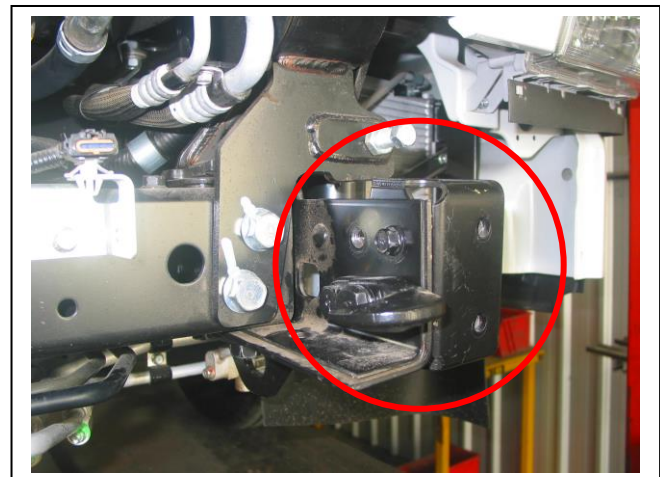

Figure 2 – Grind off remaining weld. Drivers side shown
2. Remove bumper brackets and tow hook from chassis rail. Two 22mm head bolts and one 14mm bolt (per side). **See figure 2.**